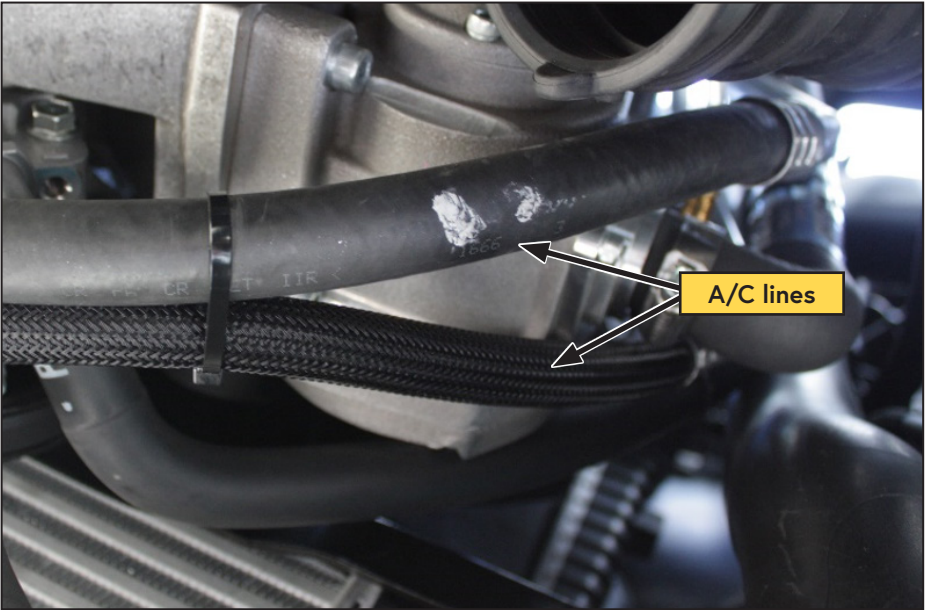

Figure 23 — Install the power steering pump
- Pass the power steering pump in front of both of the flexible A/C lines and install it onto the VMAC bracket (Figure 23).